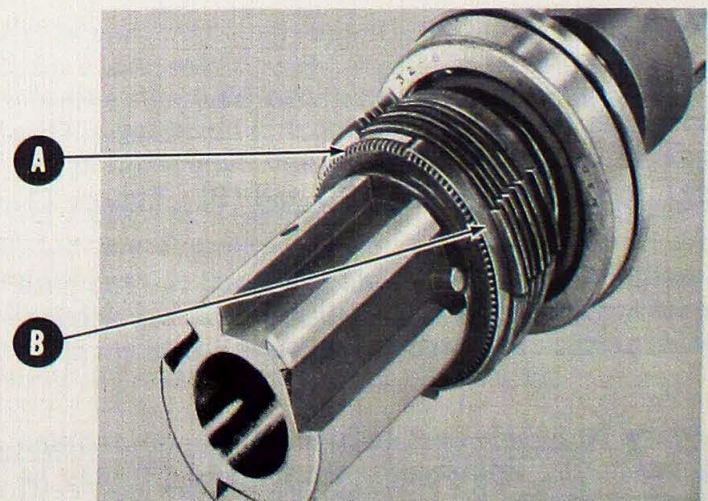

FIGURE 18 — Close up of Spindle Brake Assembly
Figure 18 is a close-up of the spindle brake assembly out of the machine. To adjust the brake, lift locking spring (B) to clear the teeth of adjusting gear (A), turn gear (A) clockwise to tighten and counter-clockwise to loosen. Do not adjust the brake too tightly.